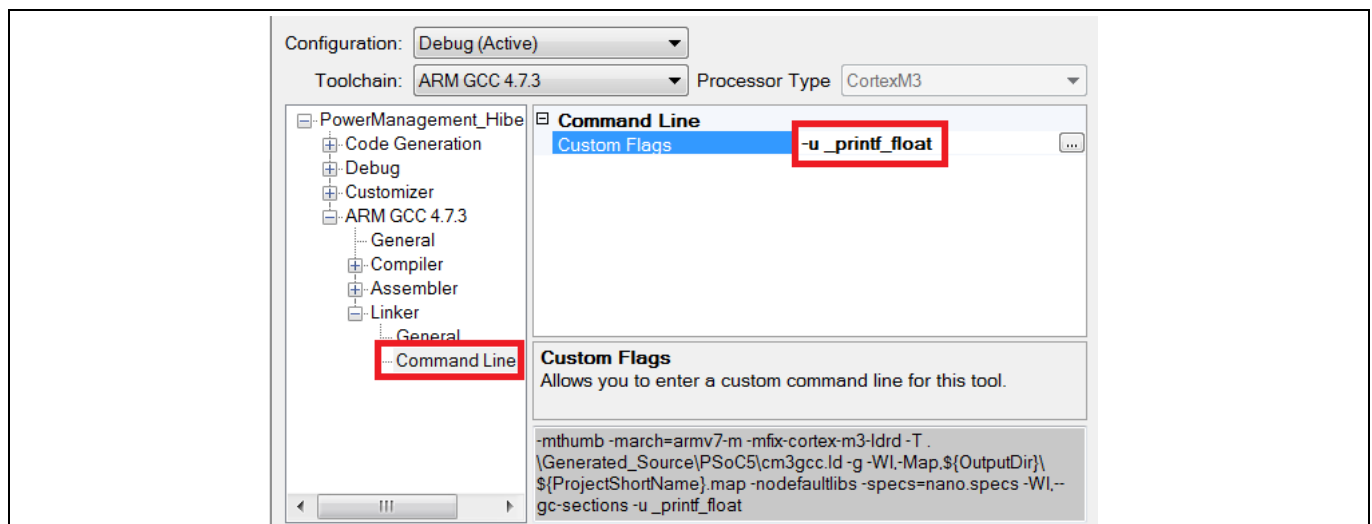

Figure 8 Enable floating-point formatting support in newlib-nano
1. Enable floating-point formatting support in newlib-nano, as shown in Figure 8. This feature is disabled by default. Enabling it increases flash usage by 10K to 15K bytes.